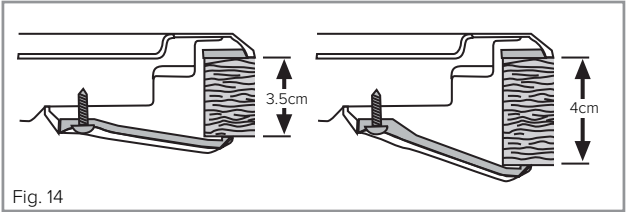

Fig. 14
3. Secure the hob to the worktop using the fixing brackets and screws supplied, as shown in the following diagram (Fig. 14). Remove any excess seal after tightening the brackets.